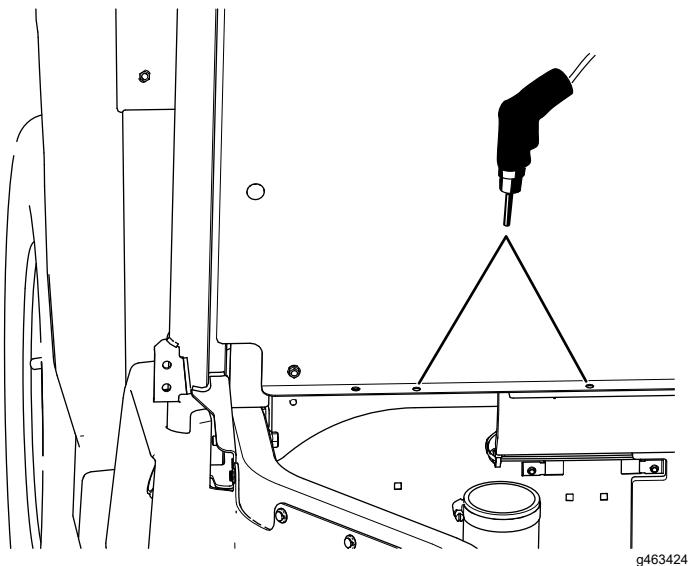

Figure 26
D. Move the CVT-intake hood and drill the 2 holes (11/32 inch) into the seat panel (Figure 26).